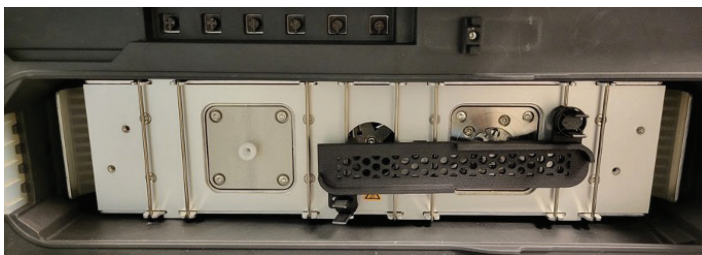

Figure 1: μPATCH column holder installed in either the column compartment or the column oven.
2. Using the two slots at the top and bottom of the Thermo Scientific™ μPATCH™ Column Holder, install the μPATCH column holder as shown in Figure 1.